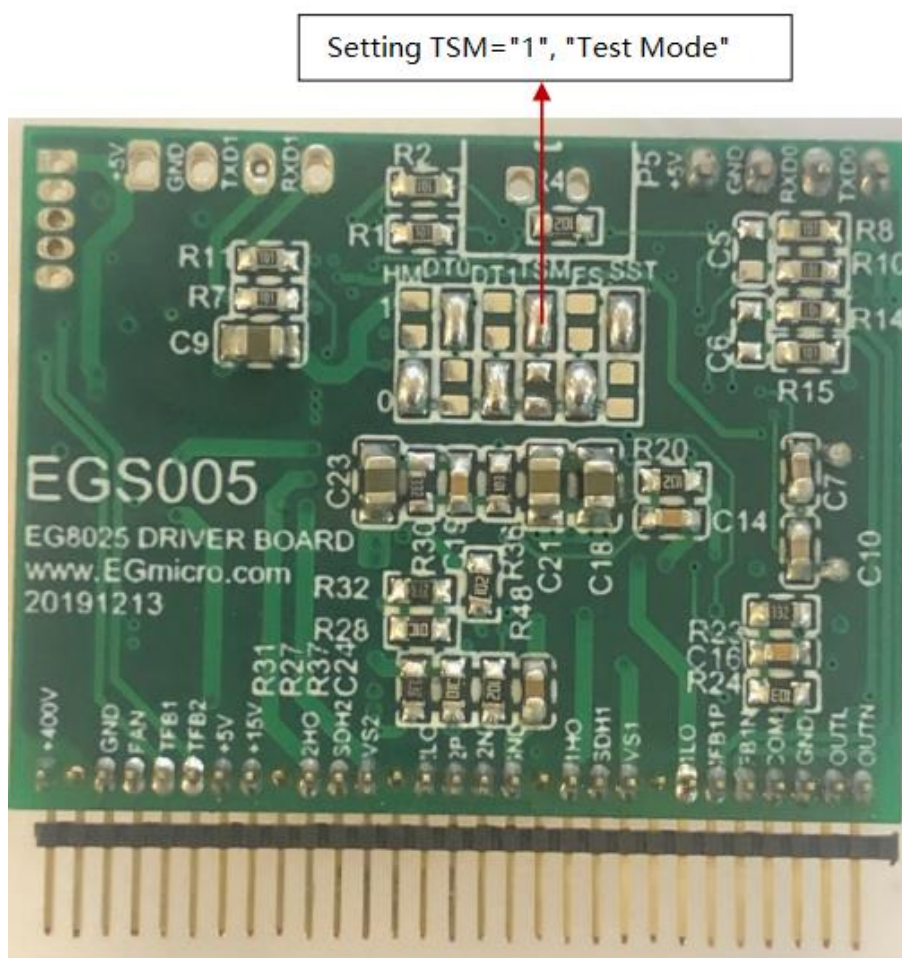

Figure 4-1b. Set EGS005 Driver Boar to Test Mode
- Step1: Set the jumper TSM= "1" as Figure 4-1b,that is, JP8 is short circuited,EG8025 enters test mode. In test mode,EG8025 outputs an open-loop SPWM signals, which means that there are no protection functions, and the voltage feedback and current feedback are invalid.